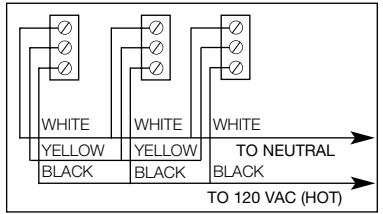

FIGURE 5
- Use #18 AWG minimum solid or stranded wire. When interconnecting, maximum wire length between any two is 1,500 feet for #18 AWG or 4,000 feet for #14 AWG (20 OHMS loop resistance.) See Figure 5.